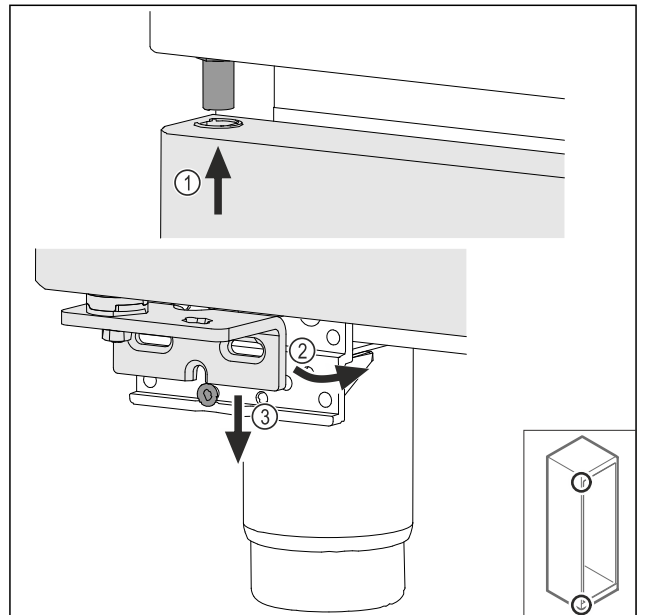

Fig. 74
- ▶ Insert the door slightly tilted at the top Fig. 74 (1), align the door straight Fig. 74 (2) and place it on the bottom of the swap bearing block screw Fig. 74 (3).